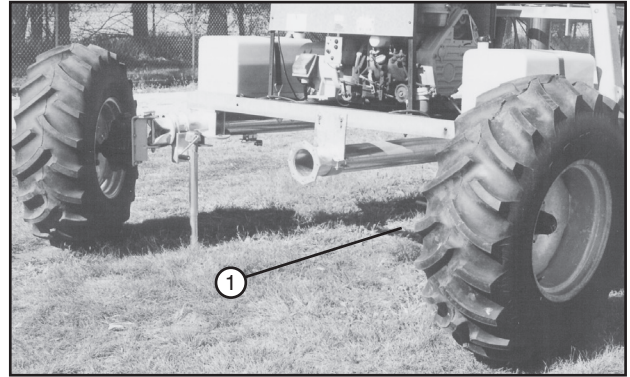

Figure 79-1 1. Return mounts to operating position.
7. Raise the cart and return the swivel mounts to the operating position. See Figure 79-1.
1. Attach the anchor chains and secure the cart to the pivot point. See Figure 79-1.